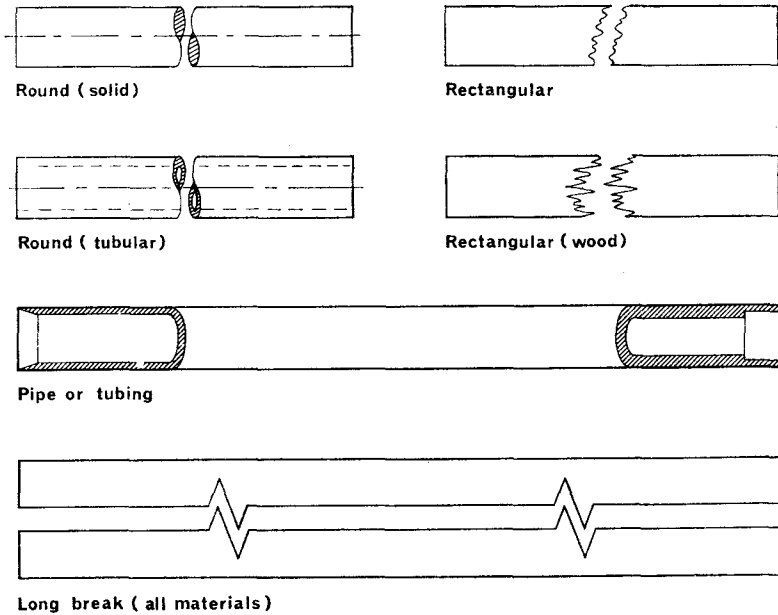

Fig. 8. Conventional breaks
10. When a component is symmetrical about an axis or is of extreme length, a part or broken view may be used (Fig. 8).